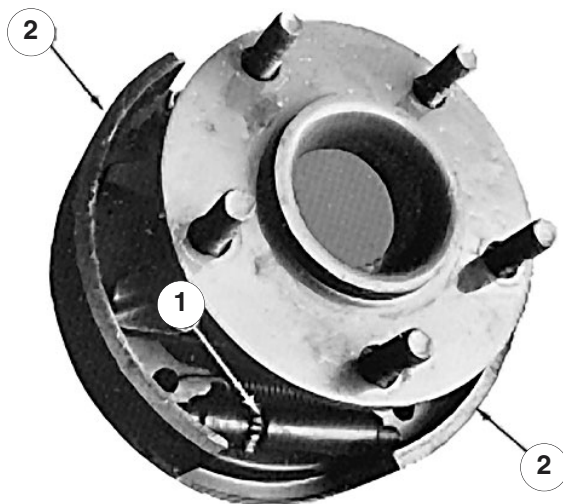

Figure 46
- Using a brake adjusting tool or screwdriver, turn the star nut (Fig. 45) down until the brake drum (Fig. 46) locks because of outward pressure of the brake shoes (Fig. 46).